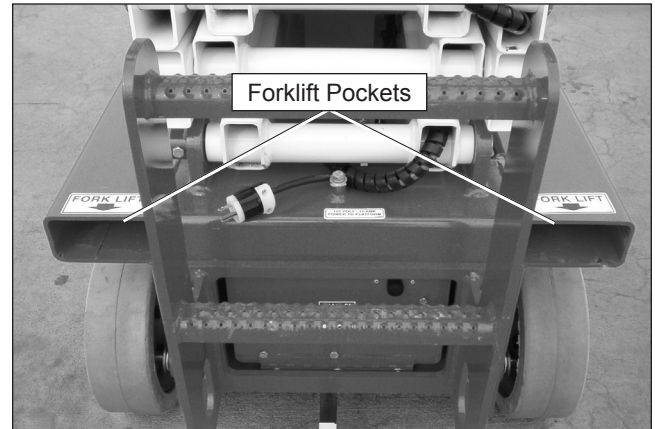

Figure 10.1 – Rear of Chassis
3. If lifting from the rear of the machine, insert the forklift forks into the pockets (refer to Figure 10.1).